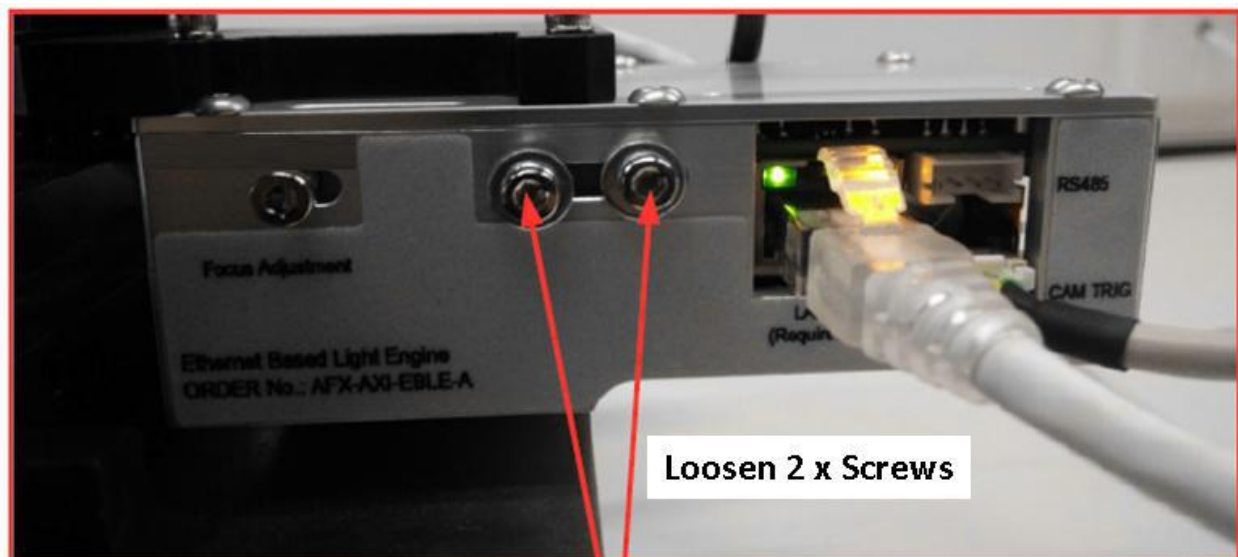

Figure 48 EBLE Projector
48. Loosen 2 X Screws at EBLE Projector as below Figure 48.